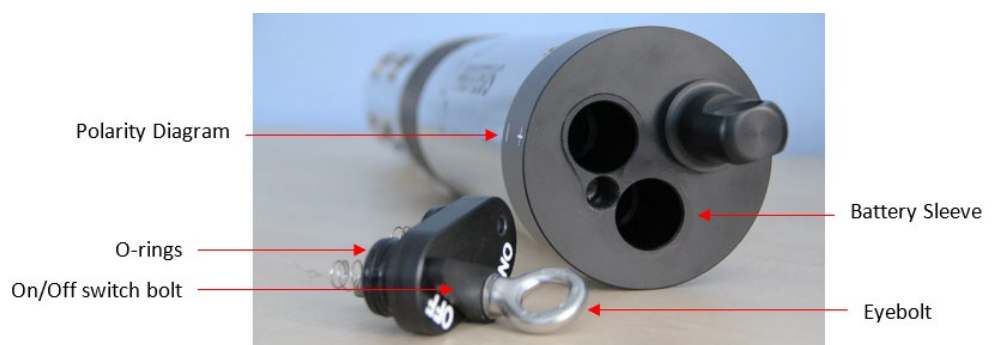

Figure 52: Changing of IBP batteries
5. Replace the batteries (6 x C cell), paying careful attention to the polarity diagram on the outside of the sleeve (Figure 52).
7. If activating logging, move the switch bolt (Figure 52) into the 'ON' position (activation via the software must be done prior to this). The red light will flash 5 times to confirm logging has been successfully activated, followed by a single green flash to confirm adequate voltage is being received.